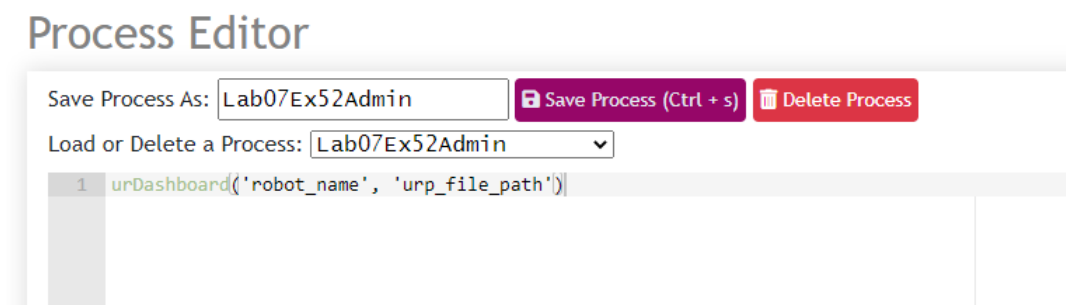

Figure 3: BUMES Process Editor urDashboard task
5. In the text editor, begin typing urDashboard. When entered correctly, the task will illuminate in green. If there are typos, the task will not highlight. Steps 4 and 5 are shown in more detail in Figure 3.